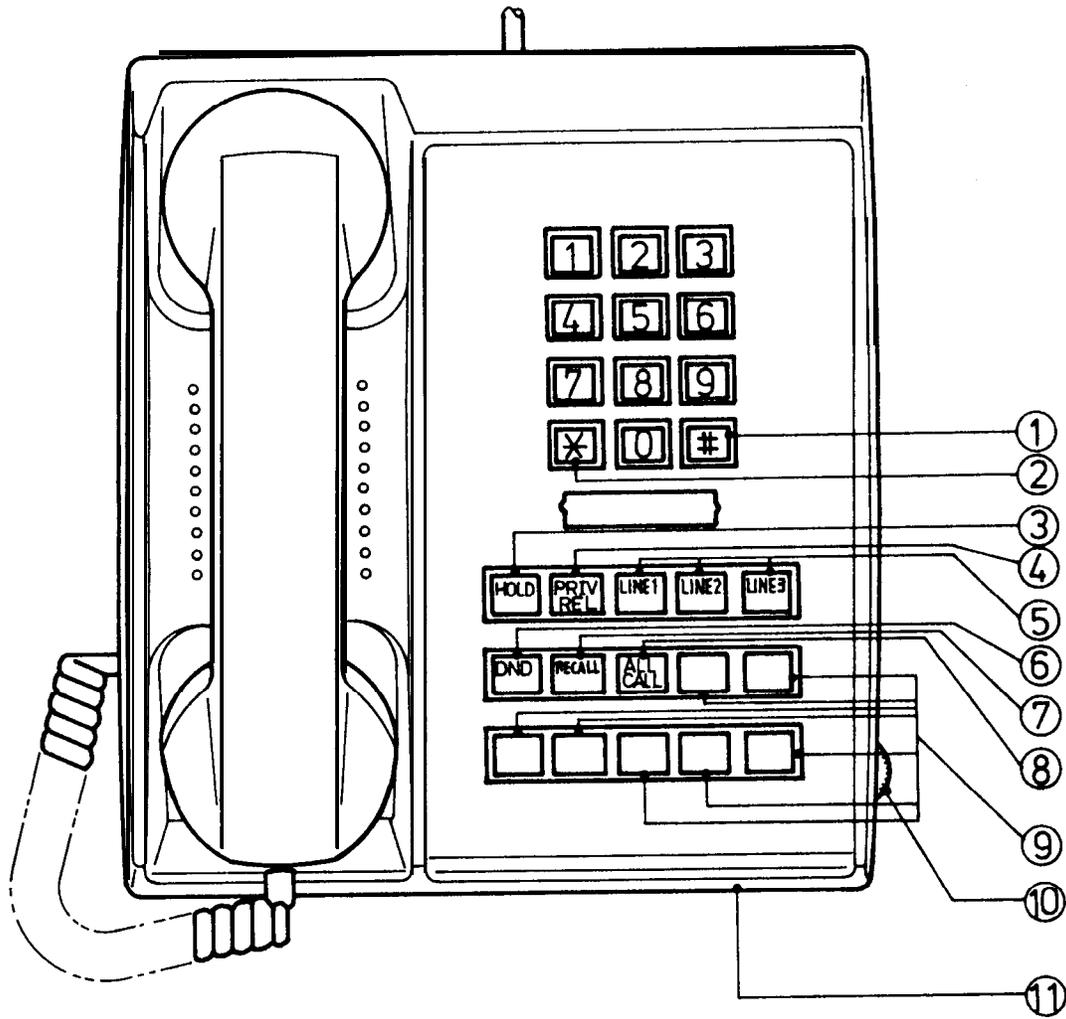

FIG. 1 - N308 TELEPHONE STATION
1.3.1.1 NOMENCLATURE (Figure 1)